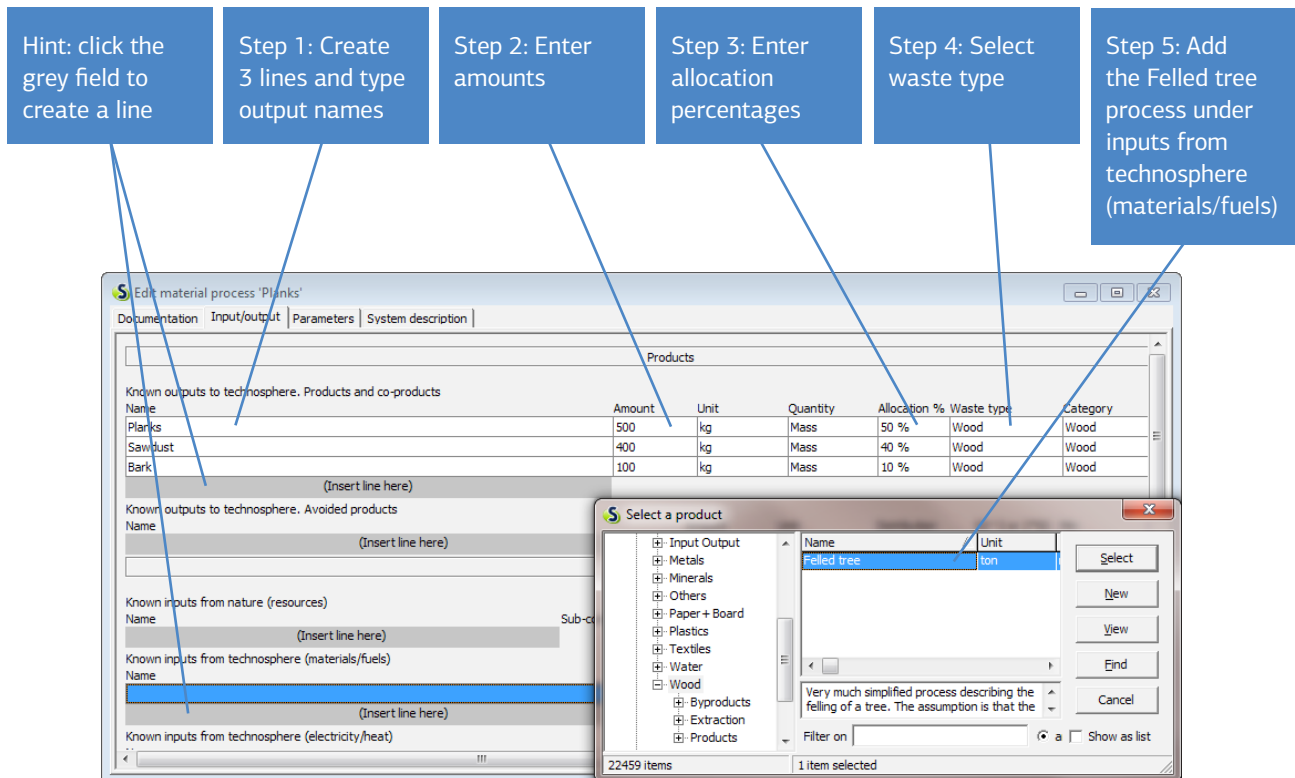

Figure 11: The three outputs of the sawmill, and the input of felled trees
3. Enter the allocation percentages; in figure 11 above this is done according to mass allocation.